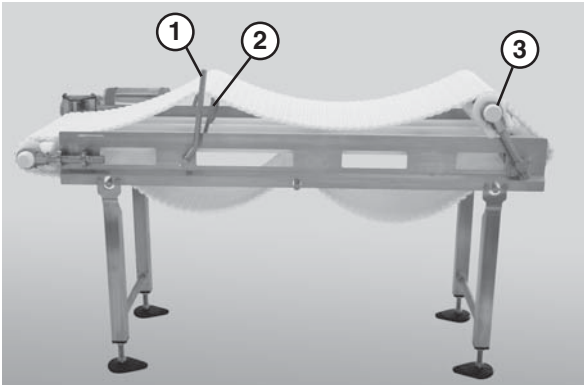

Figure 39
2. Use the lifter handle (**Figure 39, item 1**) to raise the lifters (**Figure 39, item 2**) and raise the tip up tail (**Figure 39, item 3**).